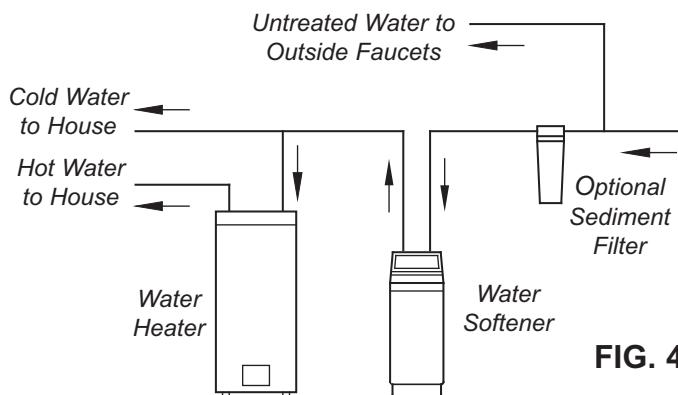

FIG. 4
12. Use a hose clamp to hold the hose in place. If local plumbing codes do not allow use of a flexible drain hose, a rigid valve drain tubing must be used. Purchase a compression fitting (1/4" x 1,25 cm O.D.) and 1,25 cm tubing from your local hardware store. (See Figure 4).